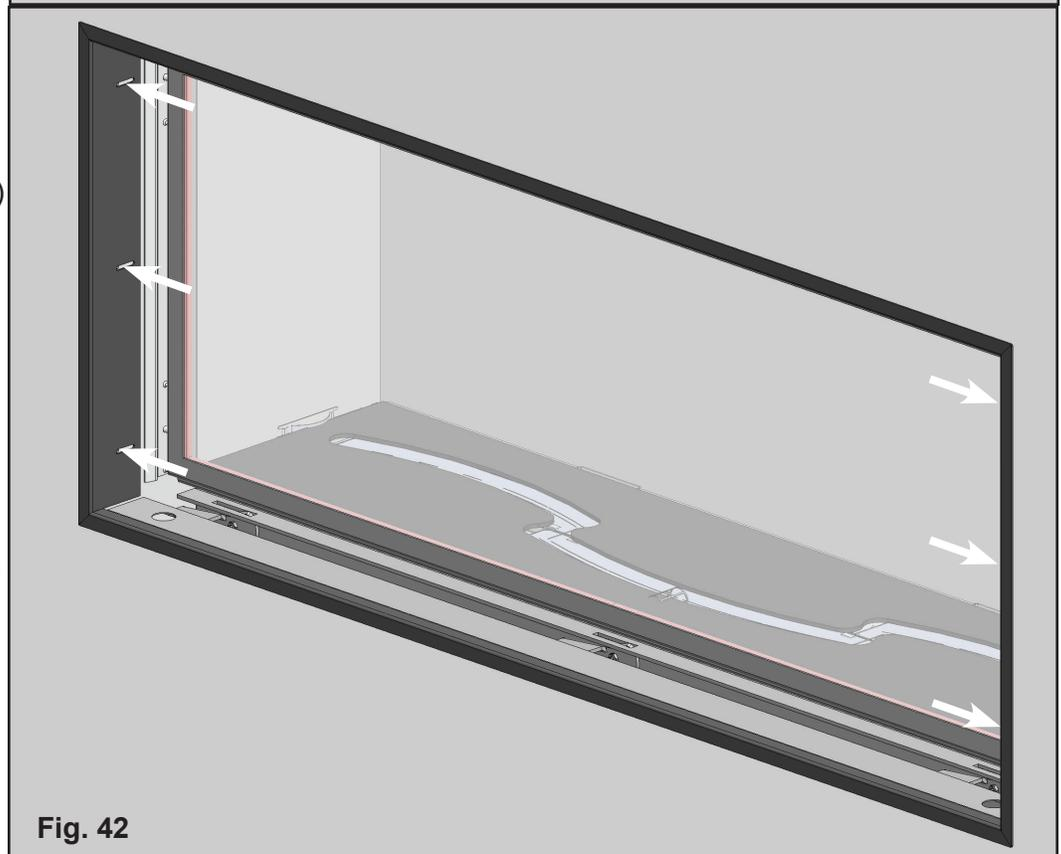

Fig. 42
1. Once the finished facing is installed the appliance trim frame can be slid into the appliance case. (Fig. 42)